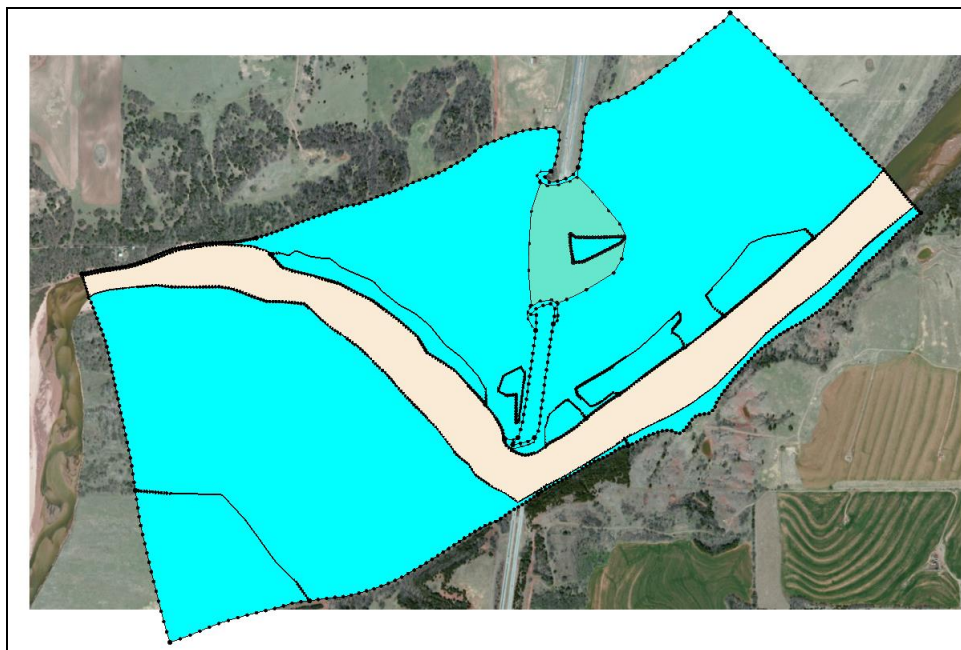

Figure 2 Cohesive sediment material located near the secondary bridge opening (shown in green)
4. Using the **Select Feature Polygon**  tool, double-click on the area under the relief bridge (as shown in Figure 2) to bring up the *Assign Material Properties* dialog.